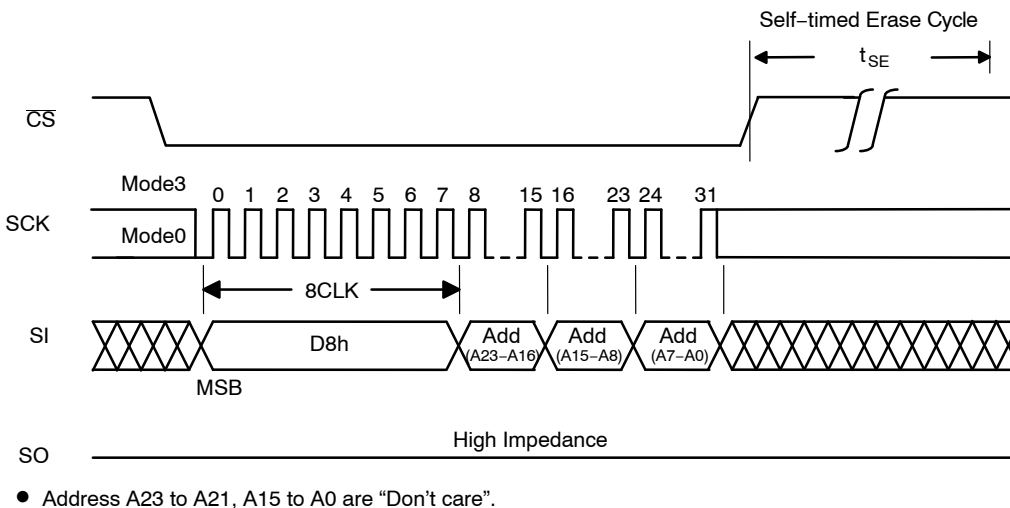

Figure 16. Sector Erase (SE)
"Figure 16. Sector Erase (SE)" shows the timing waveforms.